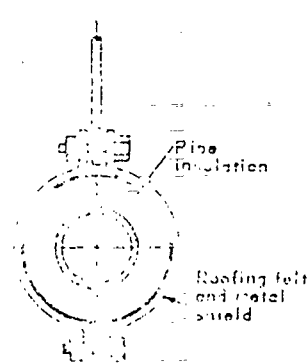

FIGURE 3
5.1 Pipe hangers shall not be attached to the pipe but shall be placed over the insulation and have a protective finish as shown in Figure 3.